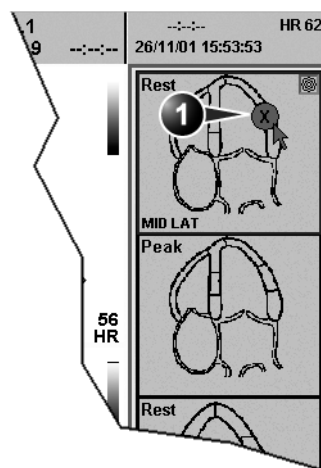

Figure 5-4: Segment scoring
1. Click on a **segment** in one of the scoring diagrams. The *Score popup list* is displayed (see Figure 5-4).